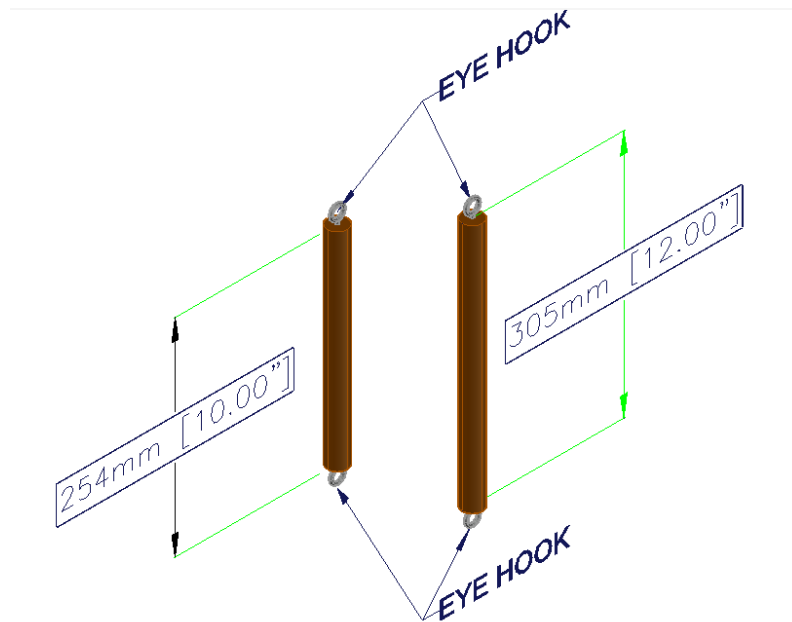

Figure 1: Trees/Logs
- j. On each end of each tree/log there will be an eye hook. These eye hooks will be oriented in the same plane, as shown in Figure 1.